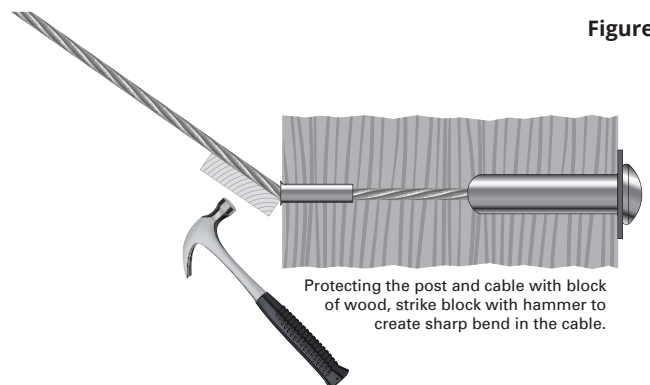

Figure 12
3. Move to Pull-Lock® end of the run and you are going to create a sharp bend in the cable where it exits the Post Protector Tube by placing a block of wood (for protection of the post) on the cable next to the tube at the face of the post and striking it with a hammer. (Figure 12) This will create the sharp bend we are looking for.